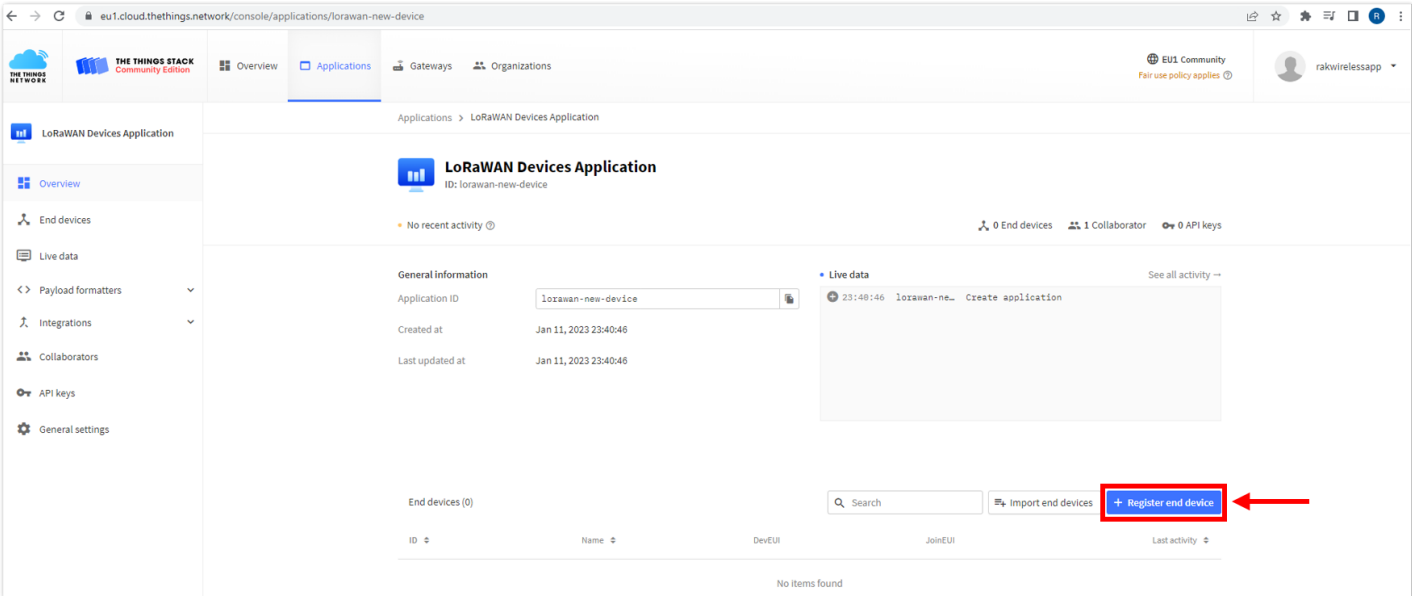

Figure 38: Register end device
1. Go to your application console to register a device. To start adding an OTAA end-device, click **+ Register end device**, as shown in **Figure 38**.